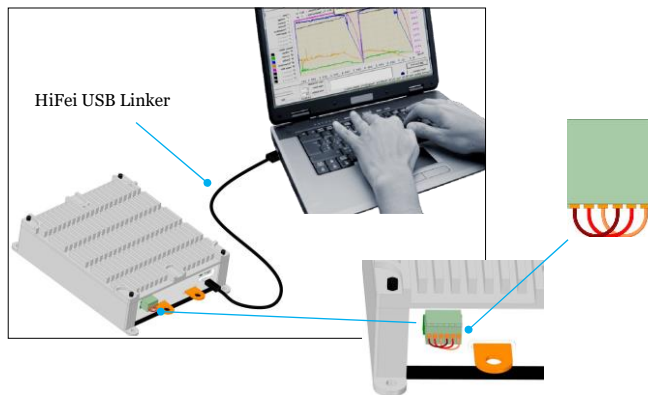

Fig. 6: Wiring Diagram of Firmware Upgrade
The Fulcrum III SHV ESC's firmware can be upgraded if there is a new firmware for the ESC be released. Before upgrade the ESC, there are 3 wires of 6P plug have to be shortened as Fig. 6, and connect the Fulcrum ESC to computer with HiFei USB Linker.
- Connecting the cable to ESC and WiFi dongle ( Figure 6)